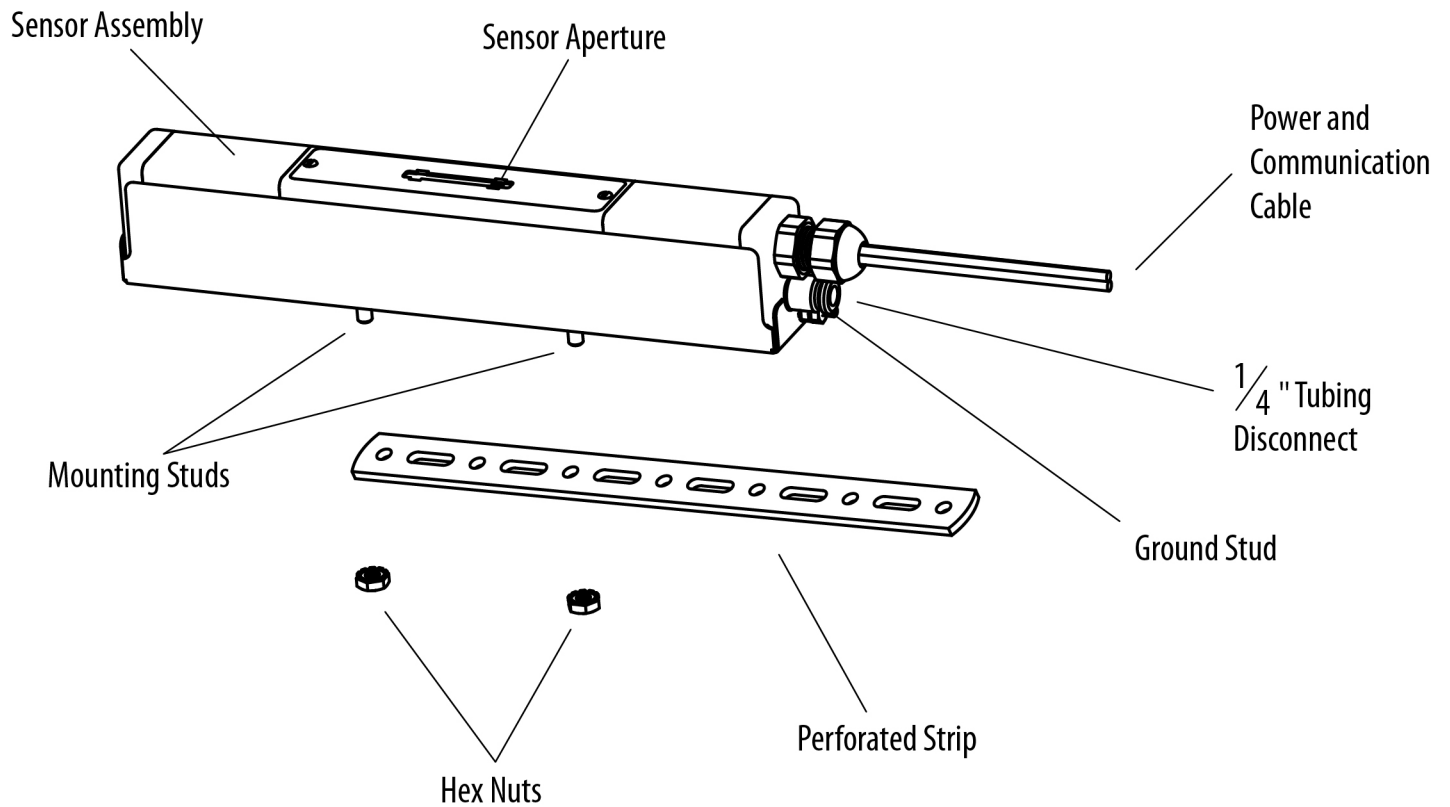

Figure 1. IQ Power HL Sensor Mounting
5. Attach sensor assembly using perforated mounting strip and hardware supplied. The perforated strip may be bent or twisted prior to installation, if necessary. See Figures 1 and 2.